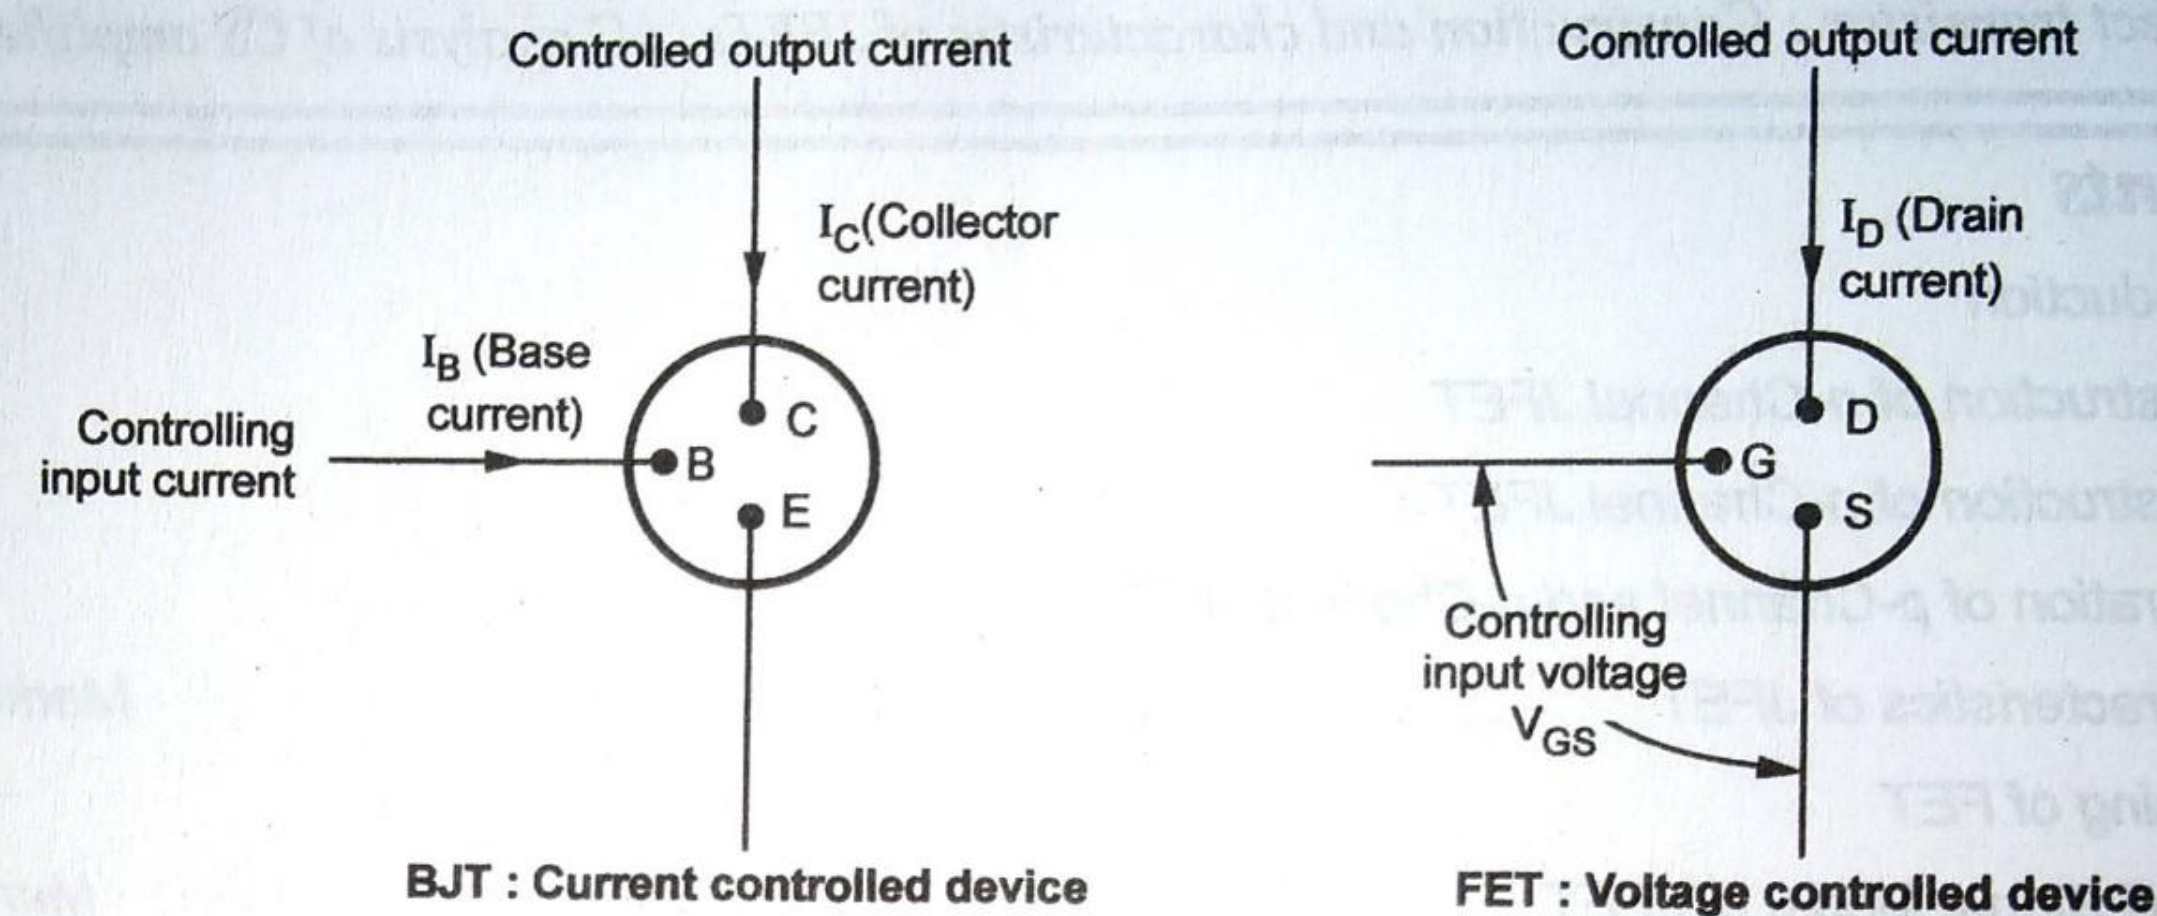

Fig. 7.1.1 Controlling element for BJT and FET
- The three terminals of FET are named as Drain (D), Source (S) and Gate (G), as shown in the Fig. 7.1.1. Out of these three terminals gate terminal acts as a controlling terminal.
- **Voltage Controlled Device :** As shown in the Fig. 7.1.1, in BJT the output current, I_C is controlled by the base current I_B . Hence BJT is a current controlled device. On the other hand, in FET, the voltage applied between gate and source (V_{GS}) controls the drain current I_D . Therefore, FET is a voltage controlled device.